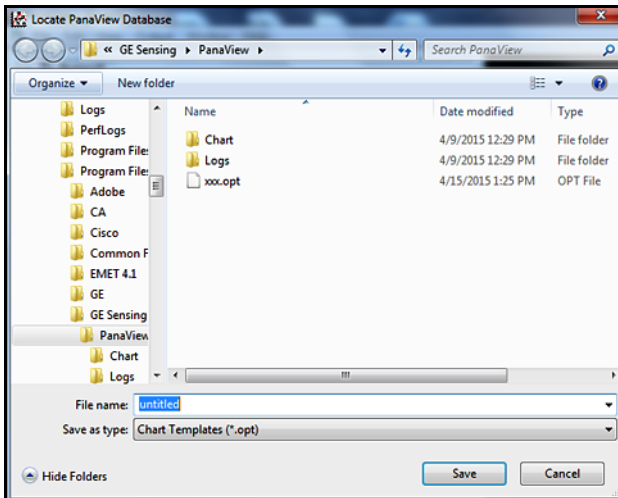

Figure 57: The Save Output Template Dialog Box
- Click the “*Save Output Template*” option to save the current graph properties and parameters as a template for future graphs. When the dialog box in *Figure 57* below opens, enter a name for the chart (graph) template file and click the [Save] button to save the file as: